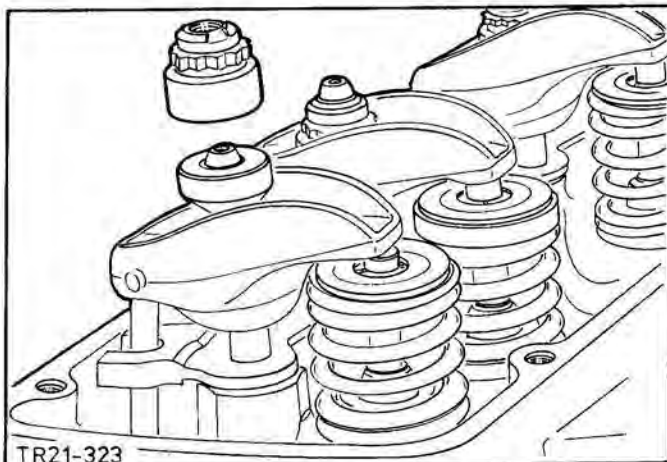

Fig.88. Rocker arm with rocker guide and adjusting nut.
1. Remove rocker arms complete with rocker guides and adjusting nuts, Fig.88.